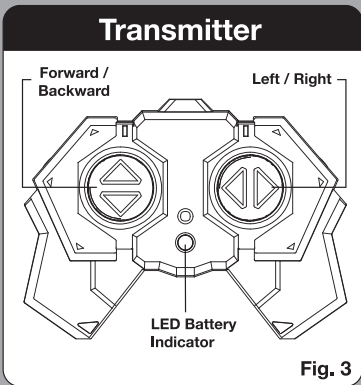
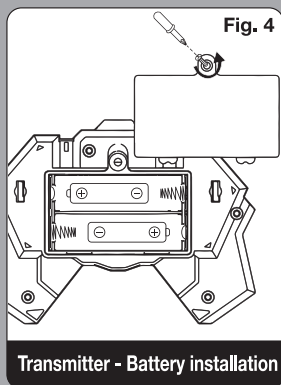

Fig. 3
Fig. 4
For Transmitter (Fig. 3 and Fig. 4)
- Use the Forward / Backward joystick (Fig.3) to drive the Vehicle forward and backward.
- Use the Left / Right joystick (Fig.3) to control the Vehicle turning left or right.